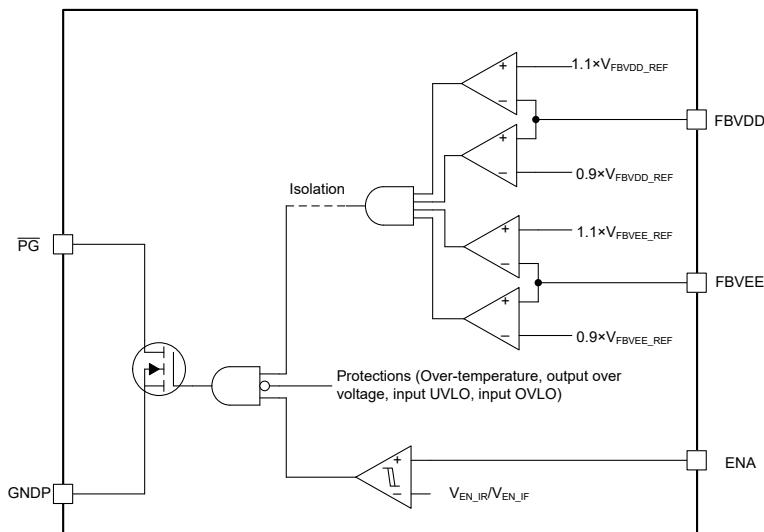

Figure 8-7. PG Pin Logic
The active-low power-good (PG) pin is an open-drain output that indicates (short) when the module has no fault and the output voltages are within $\pm 10\%$ of the output voltage regulation setpoints. Connect a pull-up resistor ($> 1 \text{ k}\Omega$) from PG pin to either a 5-V or 3.3-V logic rail. Maintain the PG pin voltage below 5.5 V without exceeding its recommended operating voltage. The logic of PG pin can be illustrated using Figure 8-7.